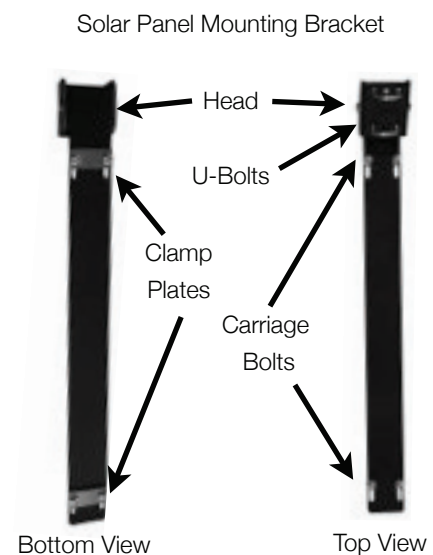

Figure 2
3. Install the two Solar Panel Mounting U-Bolts in the Head of the Solar Panel Mounting Bracket (Figure 2)